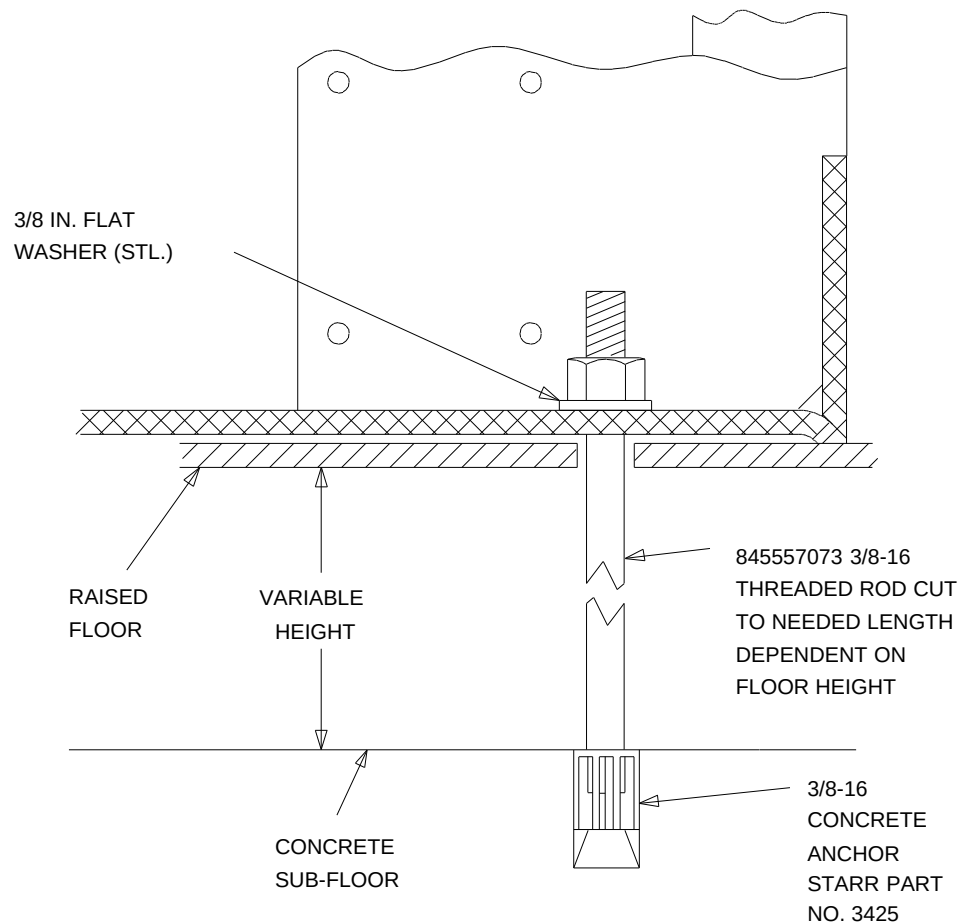

Figure 3-32. Earthquake Mounting—Computer Raised Floor
1. Mount the DC Power Distribution Unit to the wall using four No. 10 wood screws (see Figure 3-32). The unit should be mounted slightly to the right of the cabinets and a minimum of 12 inches from the floor.